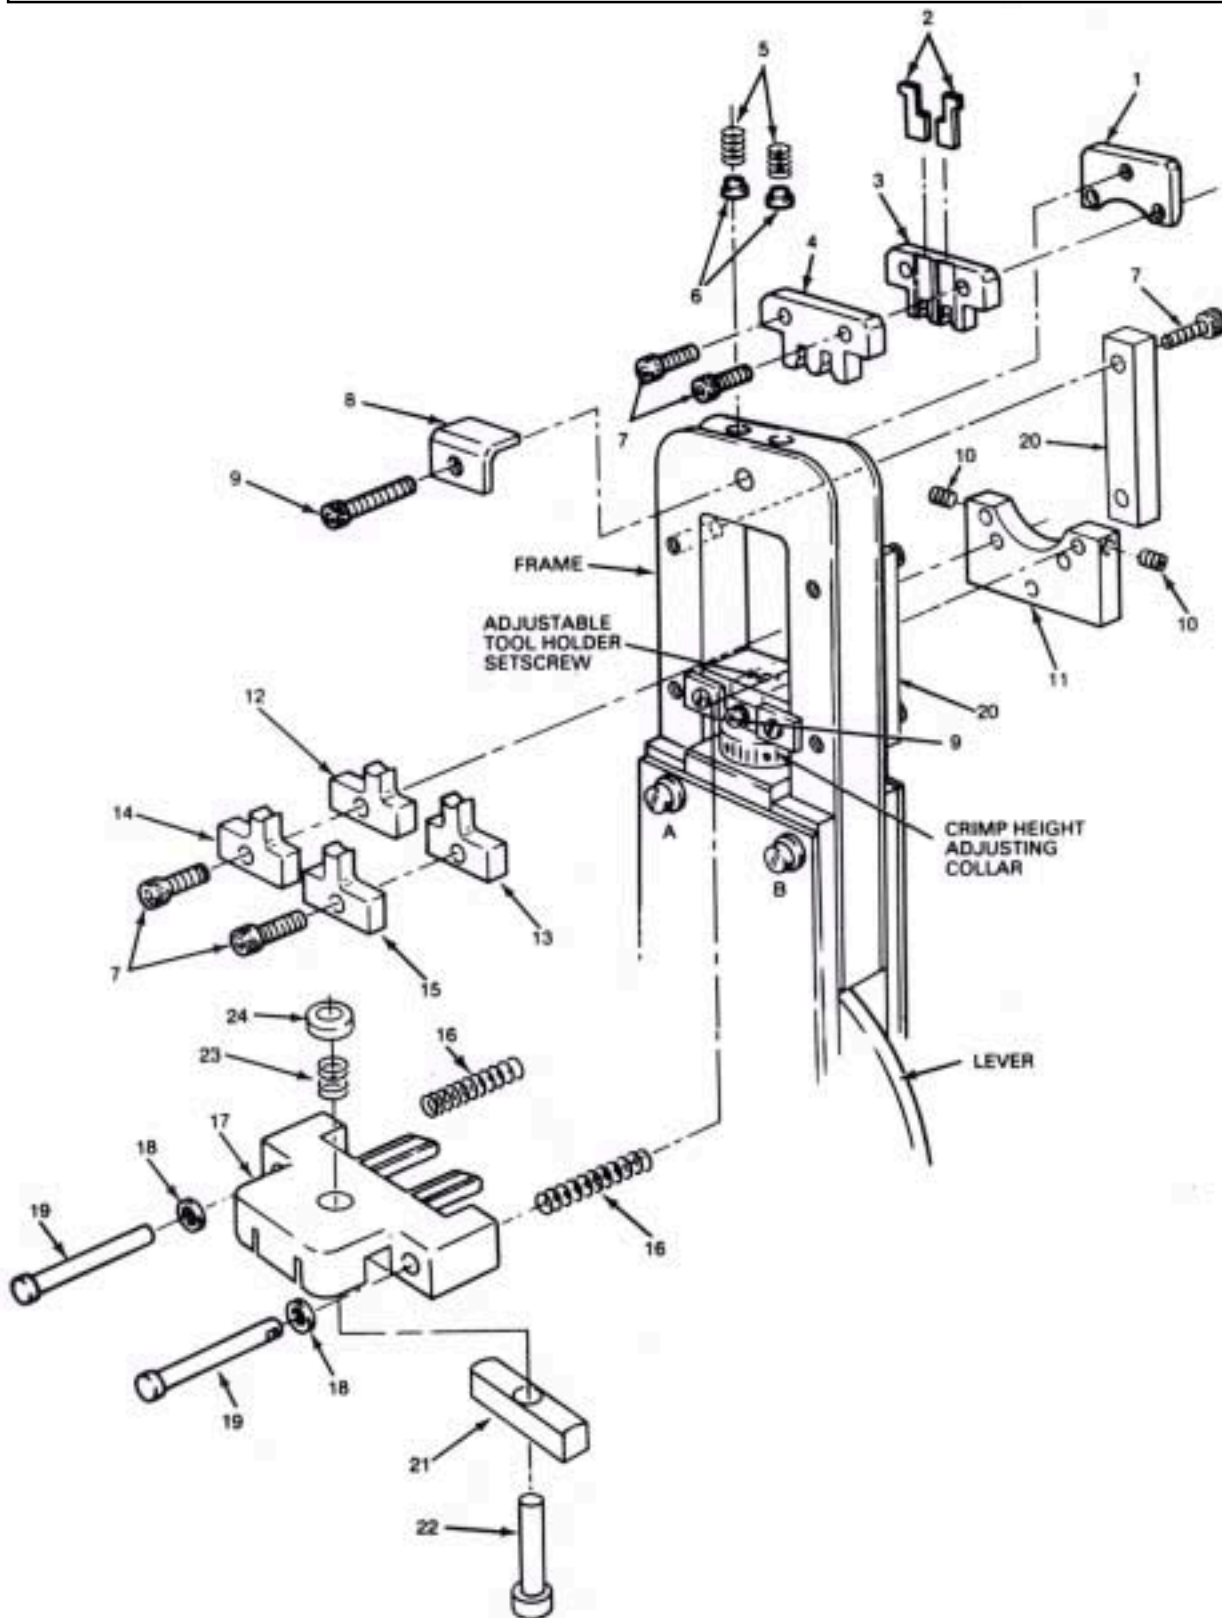

Figure 13. HT-0102 Hand Tool Parts
## B. Wire and Insulation Barrel Crimpers and Tonker Replacement (see Figure 13)
These are parts that FCI Electronics considers practical for the user to stock for replacement. Recommended spare parts for the hand tool are specified in bold type in the parts list for Figure 13.
*Parts List for Figure 13, HT-0102 Hand Tool Parts*